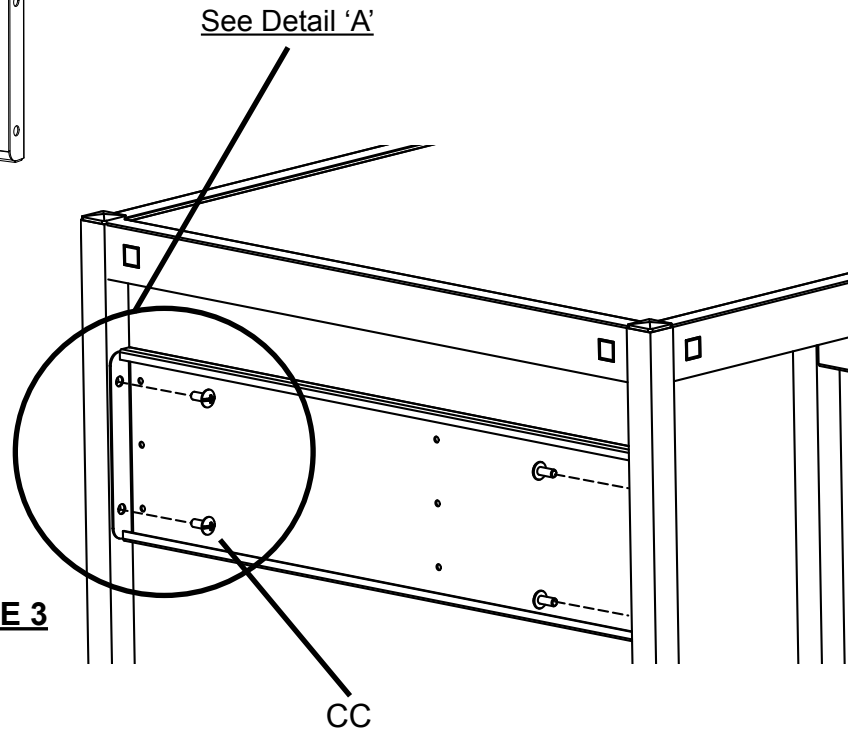

FIGURE 3
Attach shelf support brackets to upper portion of rear legs with screws (CC) as shown in **FIGURE 3**. Refer to Detail 'A' for correct position of bracket. Then separate each slide and attach the outer section to the inside of each shelf support bracket with screws (DD) and nuts (EE) as shown in **FIGURE 4**. **NOTE:** Attach rear screw and nut first.